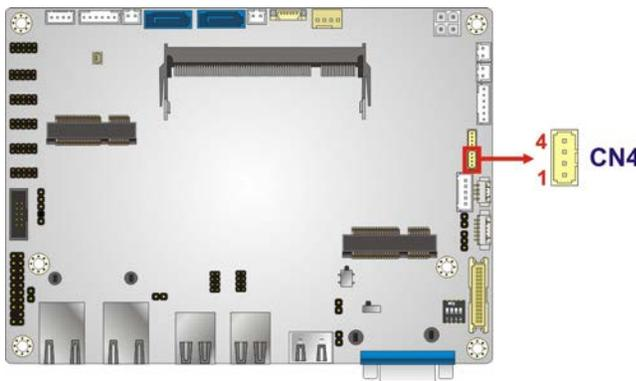

Figure 3-10: I²C Connector Location
- CN Location:** See **Figure 3-10**
- CN Pinouts:** See **Figure 3-10**